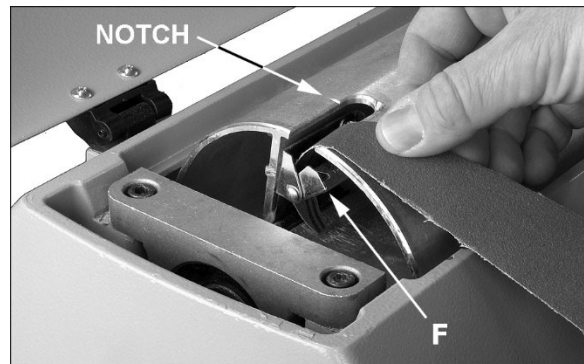

Figure 5
1. Press fastener lever (F, Figure 5) on outboard (left) end of drum, and insert tapered end of abrasive through slit in fastener, as shown. Align tapered edge of abrasive strip with left edge of drum. Insert enough strip so that the right edge aligns with the reference notch; this will ensure the proper length of strip to be secured at the opposite end of the drum.